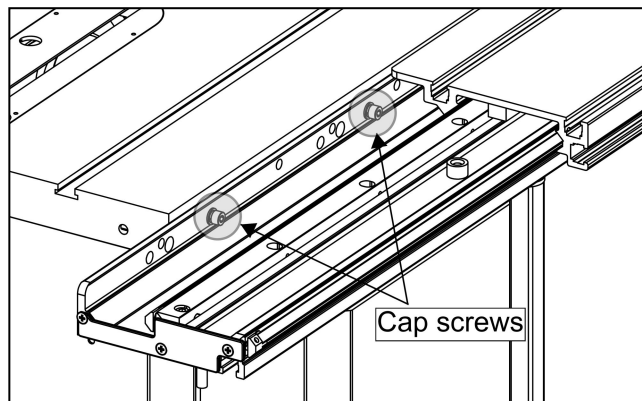

Fig.11
4. Pull out the locking knob underneath the sliding table, then slide the top part to one side to expose two of the mounting holes, as shown in **Fig.11**.